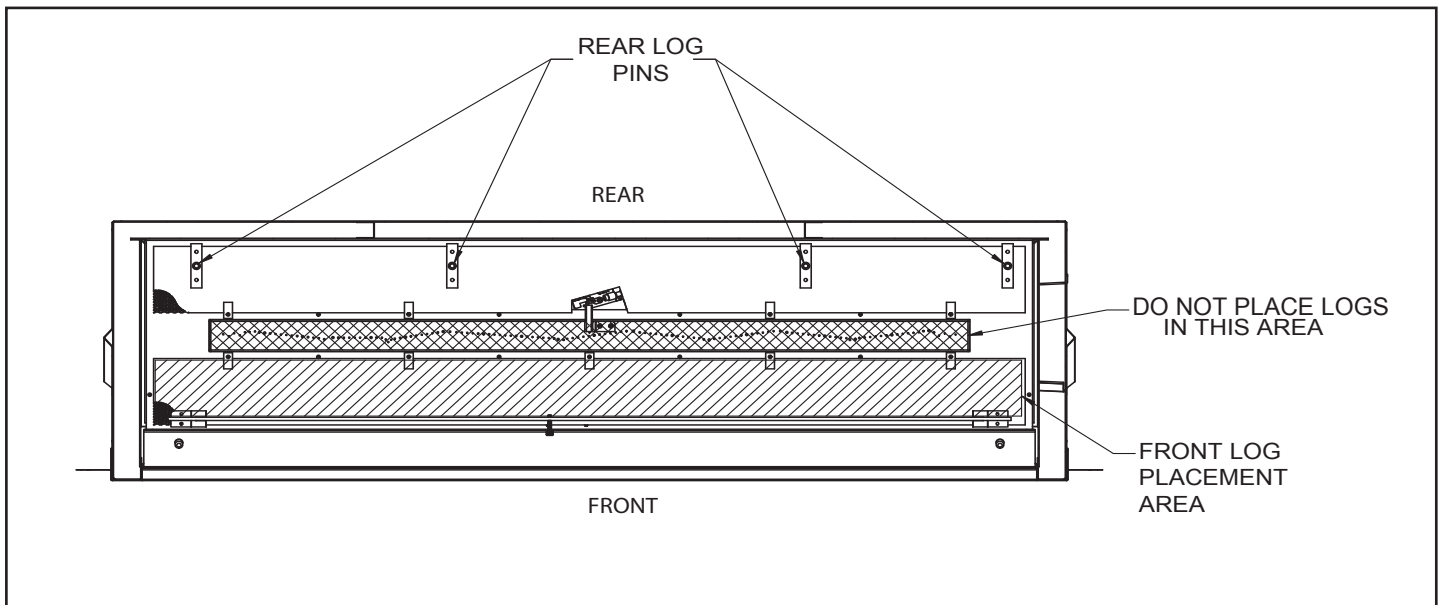

Figure 7.8— Log Placement
3. The front driftwood log does not utilize a pin bracket. This log can be placed behind the front deflection glass with the area marked on the figure below. **THIS LOG CAN ONLY BE PLACED WITHIN THIS AREA.** The log cannot be placed on the burner area. It can be adjusted left to right as desired. See Figure 7.8.